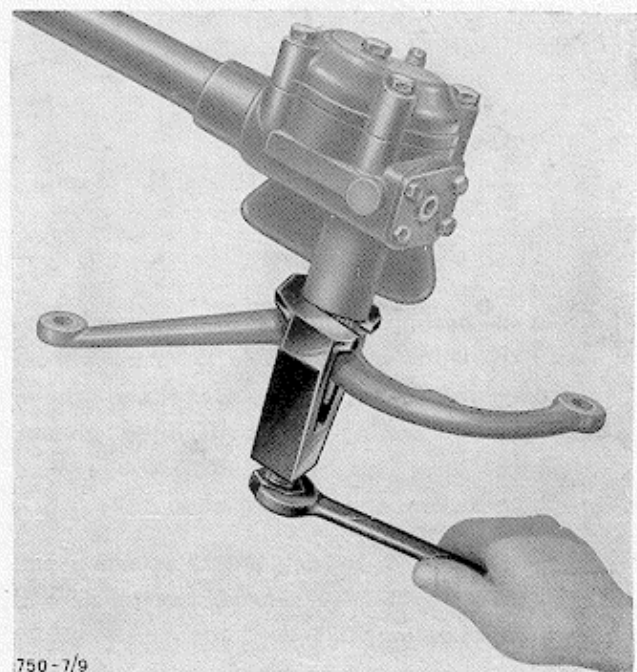

Fig. 9 - Removing the steering actuating lever from the steering using tool No. 6121.12.085
- 2) Disconnect the steering actuating lever, using tool No. 6121.12.085 (Fig. 9).